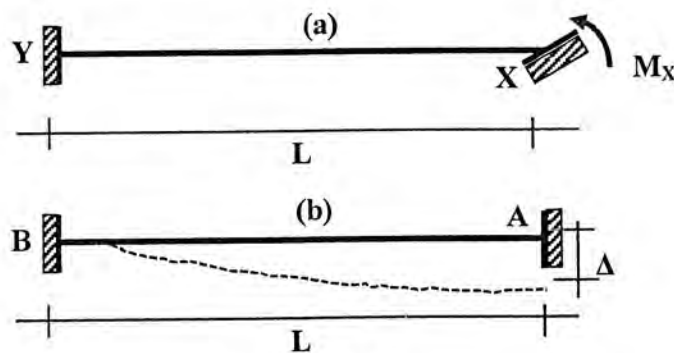

Figure 10
[10] Use the **Moment Area Theorem** and consider EI is constant for the beam shown in Figure 10.
- For the beam shown in Figure 10 (a) derive the expression, Rotational Stiffness and Moment Carryover Factor. Given, rotation at X is θ .
- For the beam shown in Figure 10 (b) derive the expression, the Shear Stiffness and Bending Moment at B. Given, vertical deflection at A is Δ .